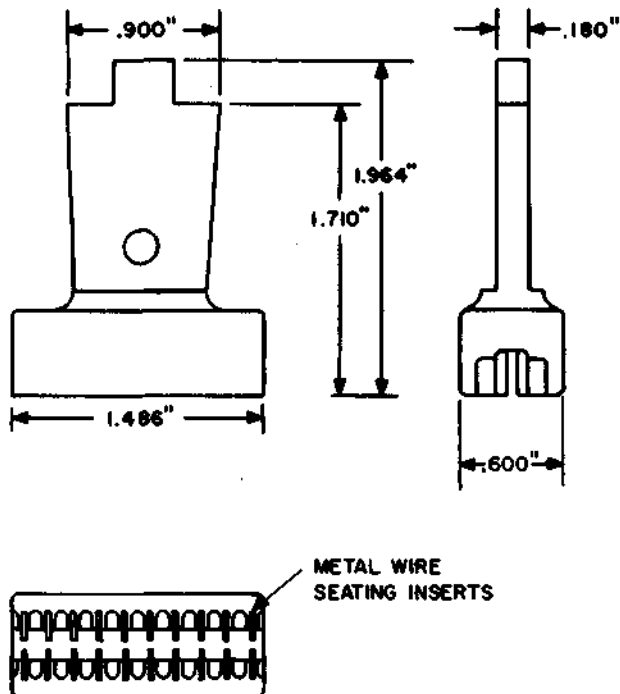

Fig. 6—788B2 Inserter Tool
2.06 788B2: The 788B2 inserter tool (Fig. 6) is used with a 788A1 handle to insert cable pairs on 88-type wiring blocks, one to five pairs at a time. The 788B2 tool is also used to install 88-type connecting blocks on to 88-type wiring blocks.